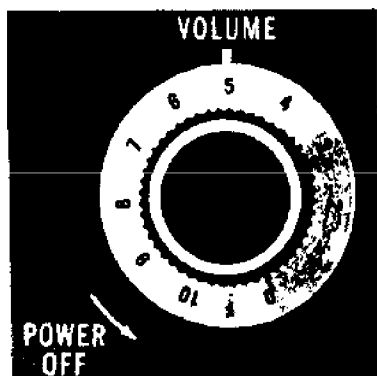

Figure 2. View showing Volume Control
Turn the VOLUME control to the left as far as possible. (See Fig. 2.) This turns off the radio. Plug the power cord into the a-c outlet.
7. To control the volume, adjust the VOLUME control (See Fig. 2.) by turning it to the right for a louder signal or to the left for a softer signal.